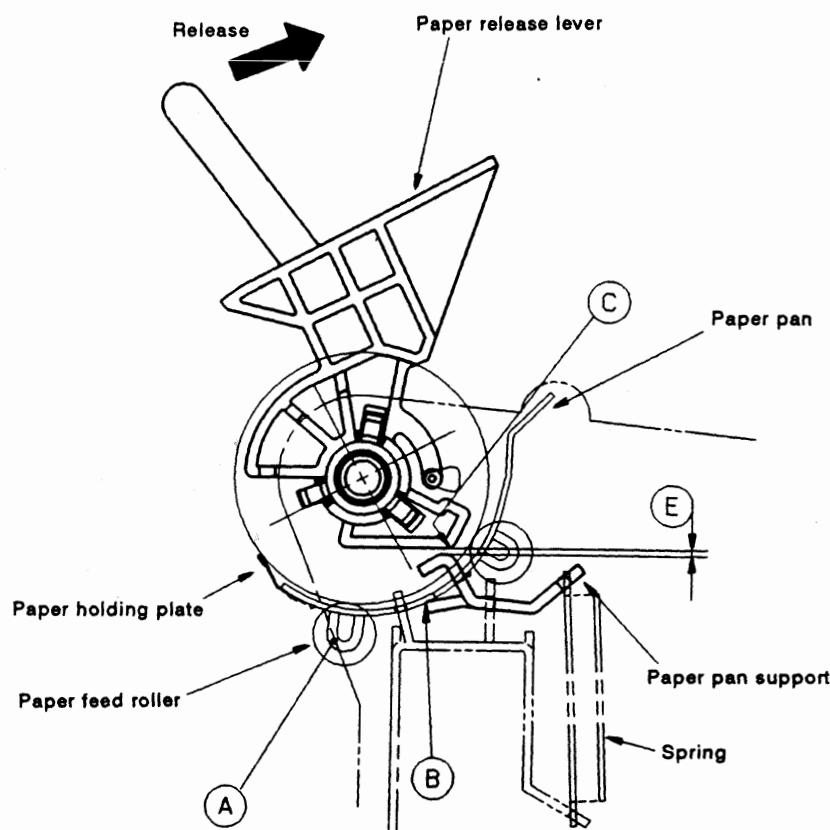

Fig. 8.1
The paper is sandwiched between the platen and the paper feed rollers. It advances as the platen rotates. Make sure that both right and left paper feed rollers rest on the platen with equal pressure. If the pressure is not even, adjust by bending part (A) of the paper pan in which the paper feed roller shaft is inserted. (See Fig. 8.1). The paper feed rollers are pressed against the platen by the paper pan. The paper pan is raised into position by part (B), by spring pressure.